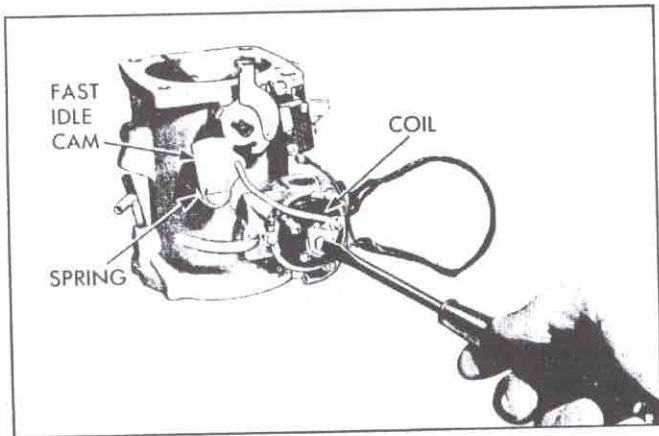

Fig. 158—Installing Cold Enrichment Coil
3. Insert the cold enrichment coil (fig. 158) into the cold enrichment housing so its operating lever is between the enrichment and signal boost valves. Loosely install three screws and retainers, position cover so scribed index is set $1\frac{1}{2}$ marks rich, and tighten three screws securely. Be sure coil ground wire is fastened by one of the screws.
4. Place fast idle cam return spring on air meter boss with the spring leg away from the cold enrichment housing (fig. 158). Hook spring tang against the cold enrichment side of the fast idle cam, center cam on boss, and secure with attaching screw. Properly installed, the spring tension should be forcing the fast idle cam away from the cold enrichment housing when the throttle is open.